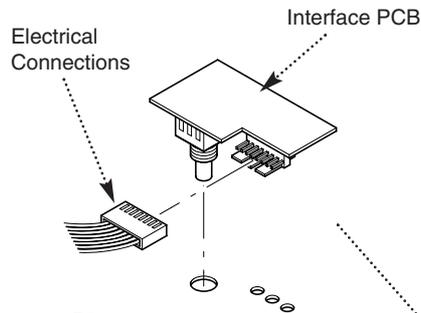

Fig. 54
2. Lift the PCB from the fascia box and remove the electrical connections (Fig. 54).